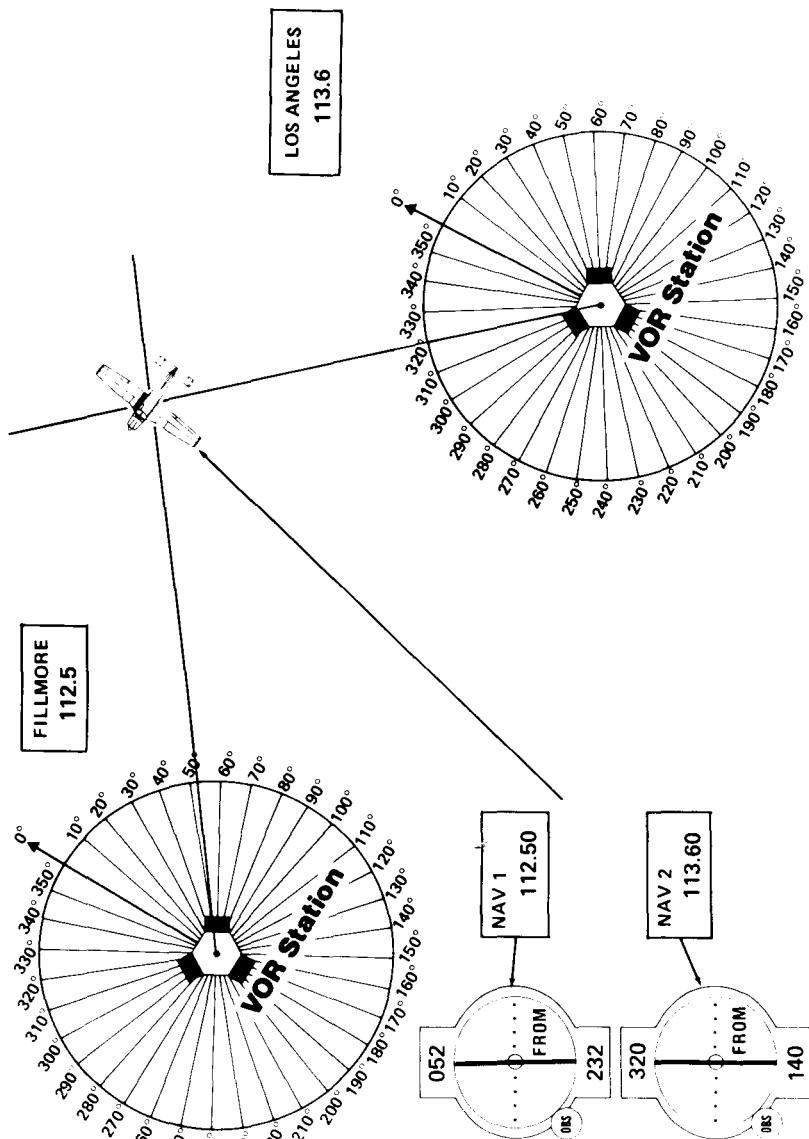

Figure 15. VOR Crosschecking
3. Look at your navigation chart and draw lines down the radials of the two VORs. The intersection of the lines is your position (see Fig. 15).